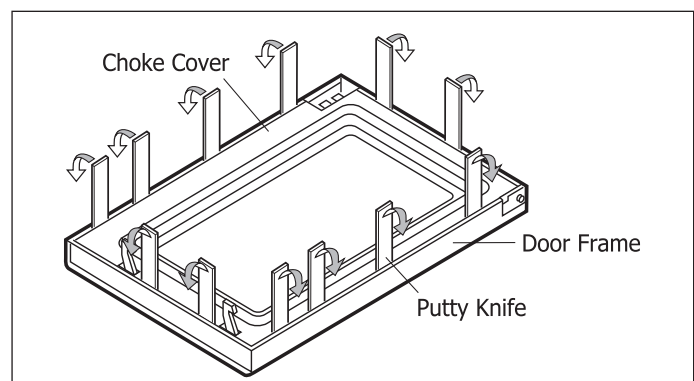

Figure 4-5. Door Components
4. Remove the three (3) screws holding the hood exhaust louver to the oven cavity front face plate.
6. Insert a putty knife (thickness of about 0.5mm) into the gap A between the door stopper and the choke cover as shown in Figure 4-5 to free engaging parts.
8. Insert a putty knife (thickness of about 0.5mm) into the gap A between the choke cover and door stopper and between the choke cover and the door frame as shown Figure 4-5 to free engaging parts.
9. Pry the choke cover by inserting a putty knife in order shown in Figure 4-5.